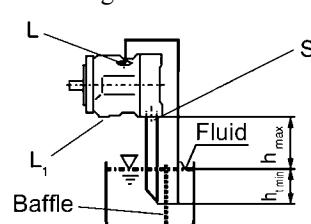

Fig. 4
b) If the minimum fluid level is equal to or below the top of the pump, pipe ports "L" and possibly "S" as Fig. 4.; close port "L¹". The conditions according to item 1.2.1.
a) When mounting above the reservoir, see Fig. 4. Conditions according to 1.2.1.